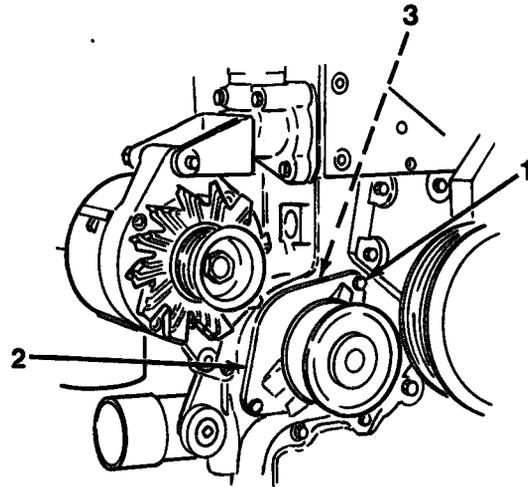

Figure 9-1
2. Using a 13 mm socket, remove two capscrews (1) and water pump (2, Figure 9-1) from engine.
3. Remove O-ring (3) from groove on inside of water pump (2) housing.